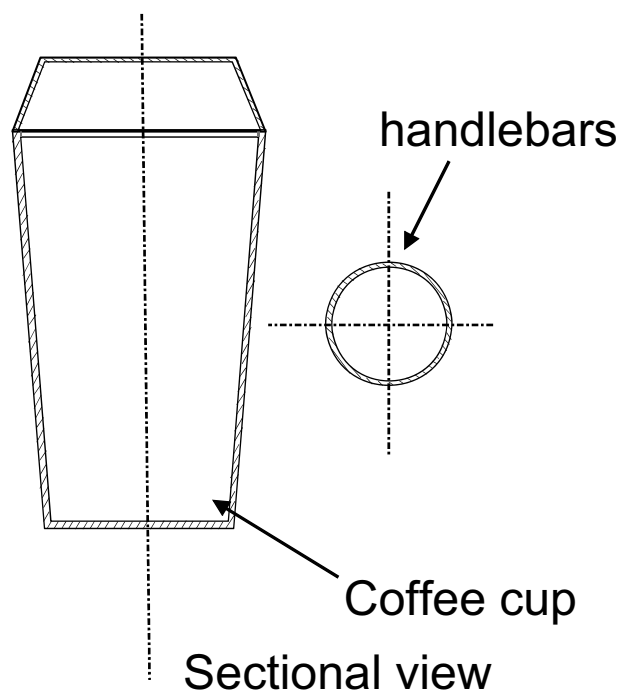

Fig. 16
- (g) With reference to **Fig. 16** below, and with the aid of an annotated freehand **isometric projection** sketch, complete the following using the blank A4 pro forma (**answer number 5(g)**):
An appropriate low cost design of a coffee cup holder that is easy and quick to secure to the handlebars at the position shown in **Fig. 16** (X – X). [6 marks]